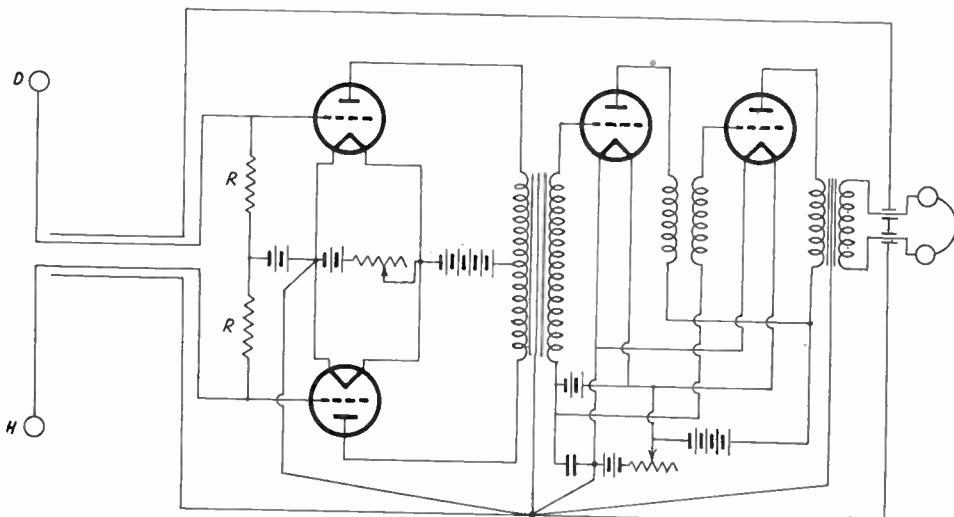

**FIG. 9**
it and they will result in a secondary electric field. This will be out of time phase with the energizing field and therefore at any point in the area the electric field will be elliptically polarized. The electric vibration will be along an ellipse, as in Fig. 9, instead of along a straight line.
position in which no current will be induced, and that is when the rod is perpendicular to the plane of the vibration ellipse, that is, when it is parallel with  $D_1H_1$  in Fig. 9,  $D_1H_1$  being at right angles to every line that can be drawn through the center of the ellipse.
**The circuit of the detector amplifier and pick-up rod used by Ricker in his method of prospecting. When the rod DH is at right angles to the vibration ellipse, as in Fig. 9, no signal is heard. In any other position of the rod there is a signal.**